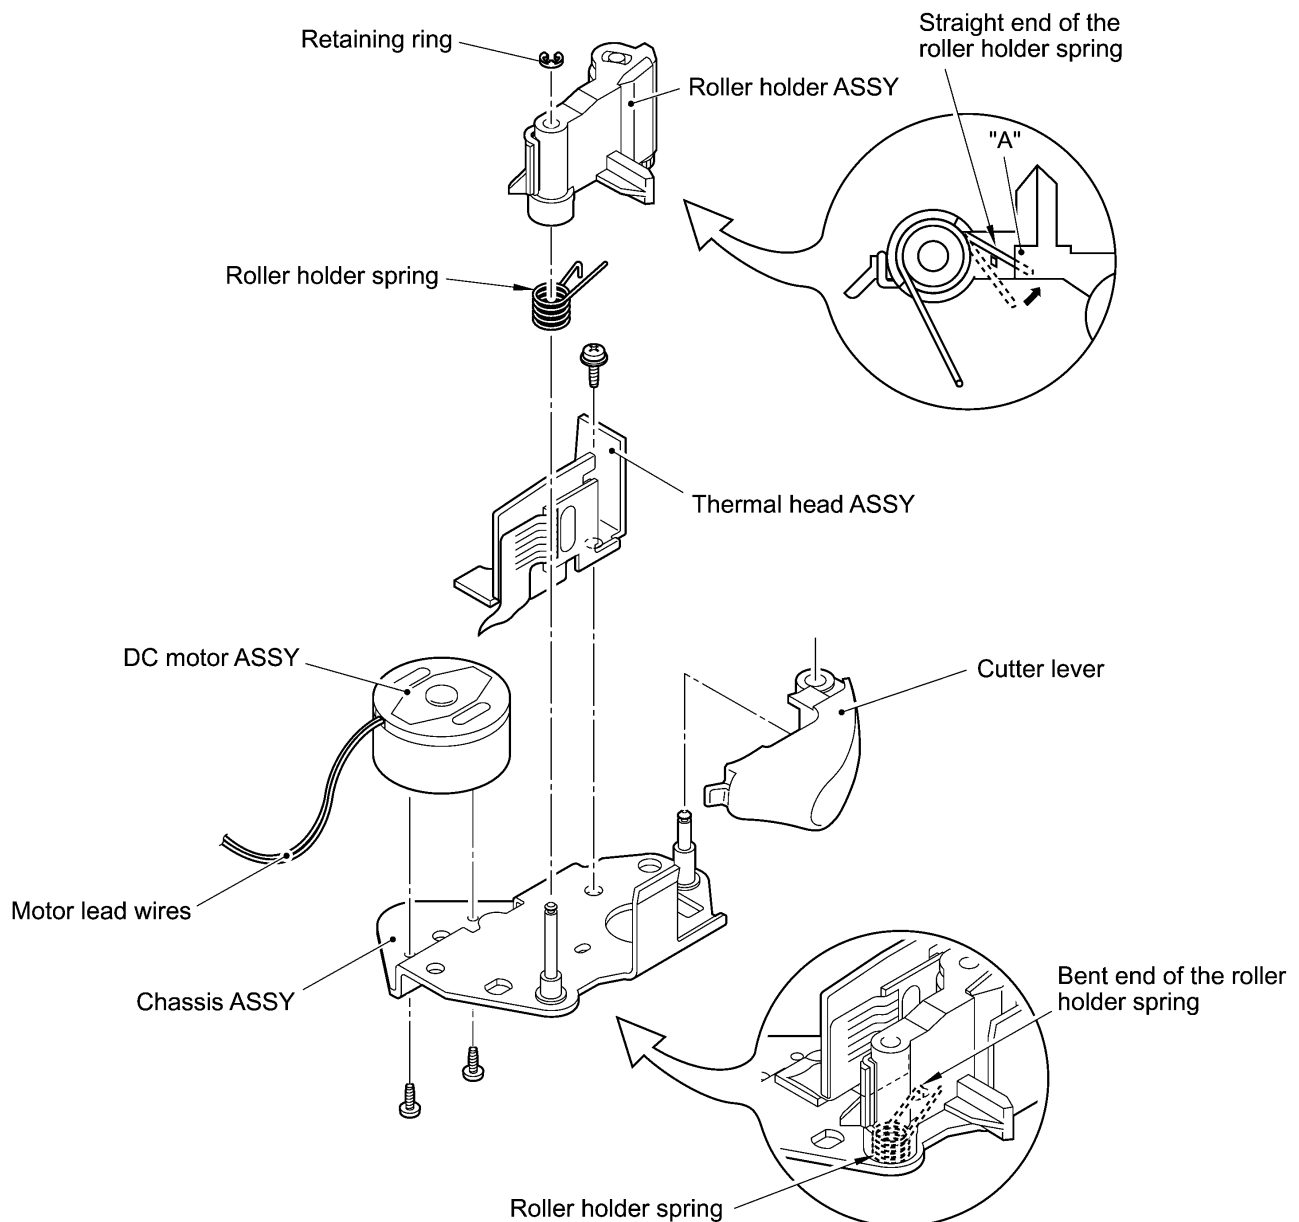

Figure 2.2-22 Assembling the Components of the Chassis ASSY
- (1) If the chassis ASSY has been disassembled, assemble the components, referring to page II-21.
- (2) As shown in Figure 2.2-22, fit the cutter lever onto the shaft on the chassis ASSY.
- (3) Put the chassis ASSY together with the cutter lever back into the bottom cover.